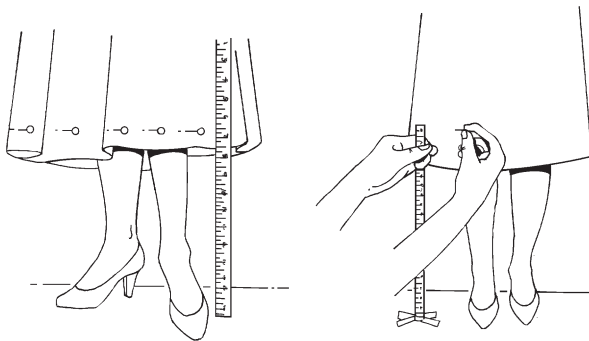

Fig. 13-1
2. Have another person measure the correct length up from the floor, using a measuring stick, and place pins or chalk marks at the same distance all the way around the garment. Check to be sure the markings form an even line. **(Fig. 13-1)** Make any changes needed. For pants, you can usually turn up an even distance all the way around. Make sure the length on both skirts and pants will be right with the heel height to be worn with the garment. **(Fig. 13-2)**